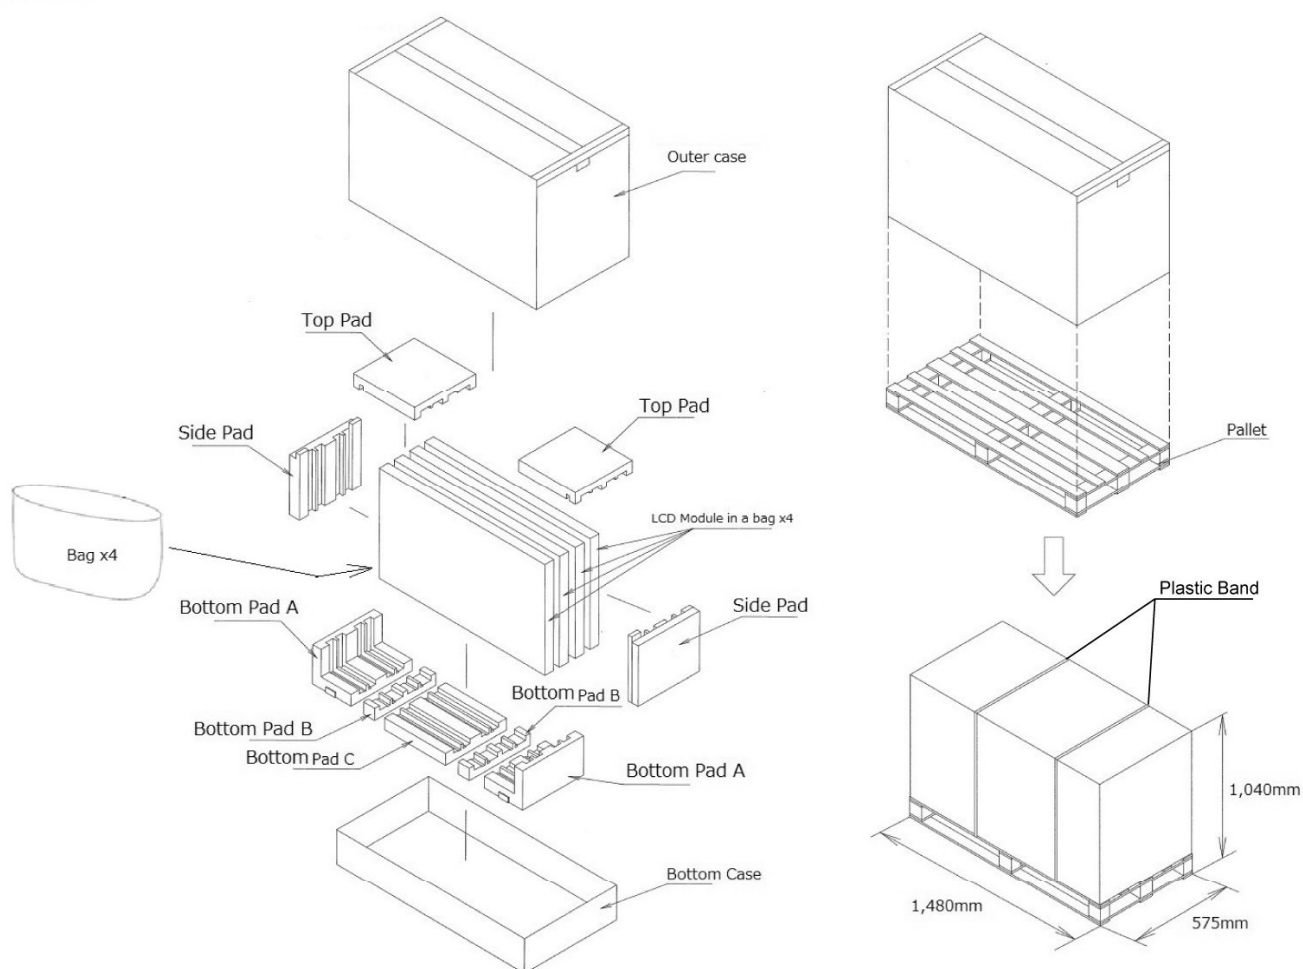

Fig.2 PACKING FORM
- c) Pallet size: 1480 (W) × 575 (D) × 1040(H) mm
- e) Packing Form are shown in Fig. 2